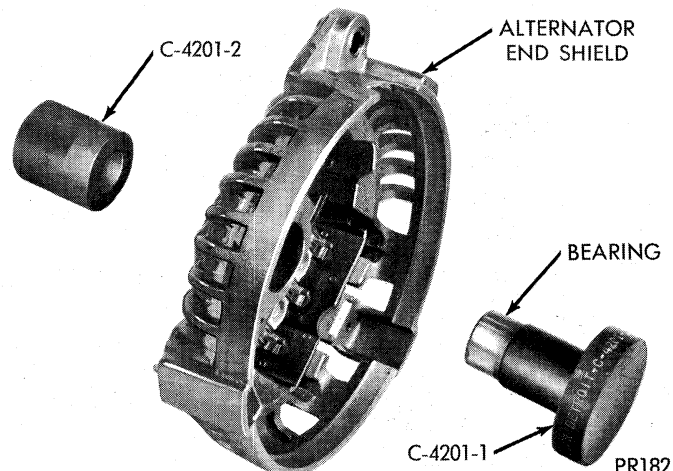
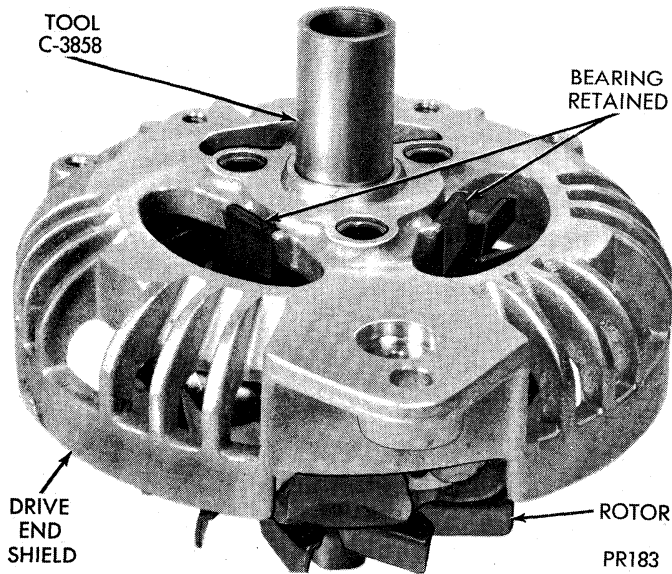

Fig. 29—Installing Rectifier End Shield Bearing
Fig. 30—Installing Drive End Shield Bearing
(2) Position rectifier end shield bearing on base of Tool C-4201. Place alternator end shield on top of bearing so that it is properly aligned. With top part of Tool C-4201 placed on end shield, press into place until it bottoms against it. (Fig. 29). **New bearings are prelubricated, additional lubrication is not required.**
(3) Insert drive end bearing in drive end shield and install bearing retainer plate to hold bearing in place.
(4) Position bearing and drive end shield on rotor shaft and, while supporting base of rotor shaft, press bearing end shield into position on rotor shaft with arbor press and Tool C-3858 (Fig. 30).